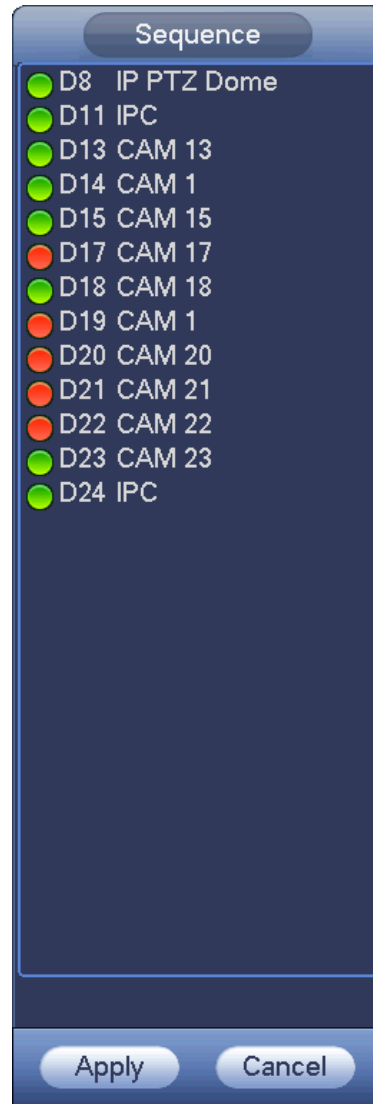

Figure 3-63
Step 1 On the preview interface, right click mouse and then click Edit view. Enter edit view interface. See Figure 3-63.